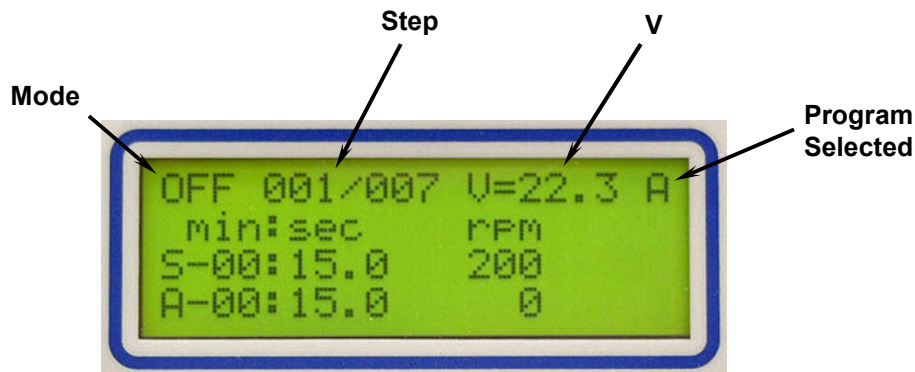

Figure 3-7
- **PROGRAM SELECTED** - the present program selected is shown in the upper right corner of the display. The program is indicated with the letters (A – T). See figure 3-7.